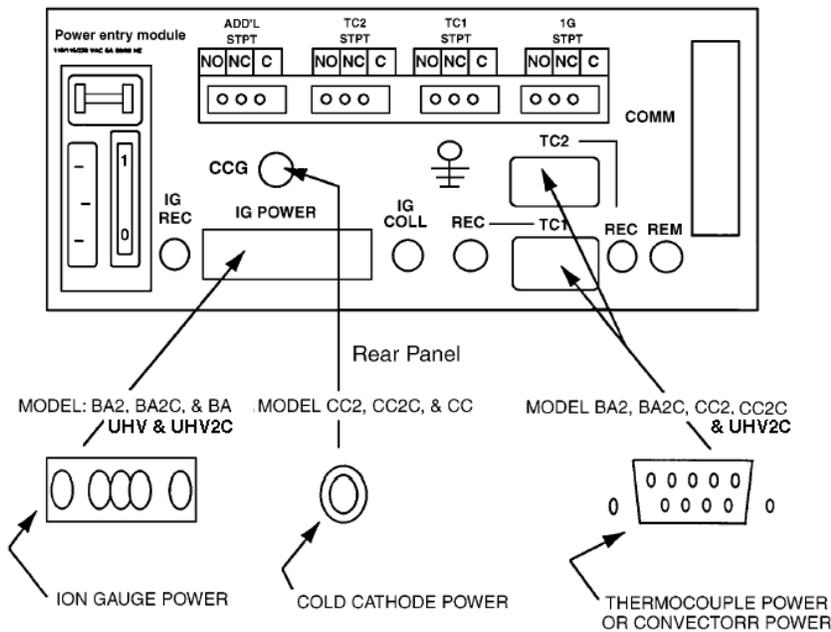

Figure 1-4 Rear Panel Connections
- Attach the appropriate external gauge and system cables (Figure 1-4).